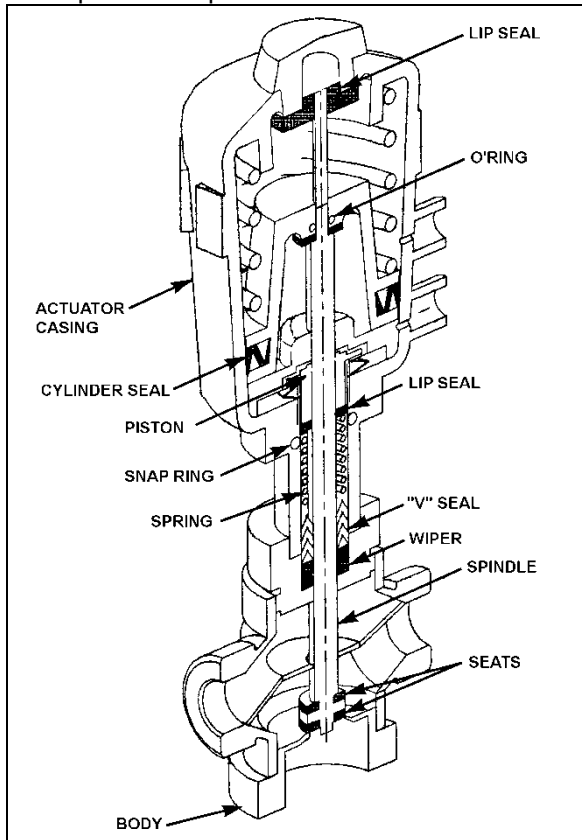

FIGURE 58: PNEUMATIC WATER VALVE 22330
2. The water valve need not be removed from the line. Unscrew nipple, the actuator casing, tube, spindle and closure member can be removed (Figure 58).
2. Tighten the nipple in place in the body cavity as per Figure 58. Fasten pilot solenoid valve to the pneumatic water valve. Reconnect air supply pressure and electrical current to the pilot solenoid valve.